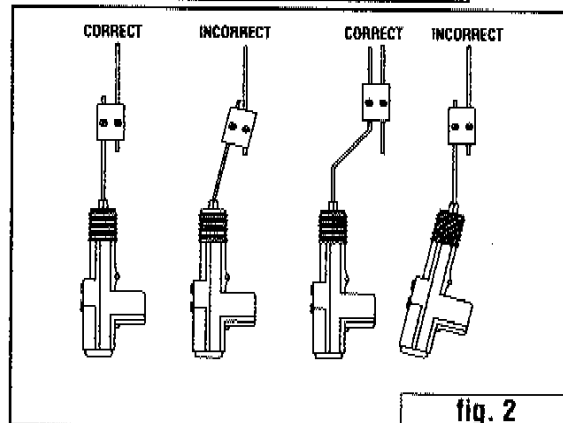

fig. 2
2. Align the actuator in the correct direction as shown in fig. 1-a, 1-b, and fig. 2. Make sure the actuator does not obstruct any moving part (window and associated mechanism) within the door. Make sure the actuator moves parallel with the rod.
1. Make sure the actuator's movement is parallel with the knob rod (fig. 2). Otherwise, it will make the lock/unlock motion incorrectly and/or decrease the life of the actuator.